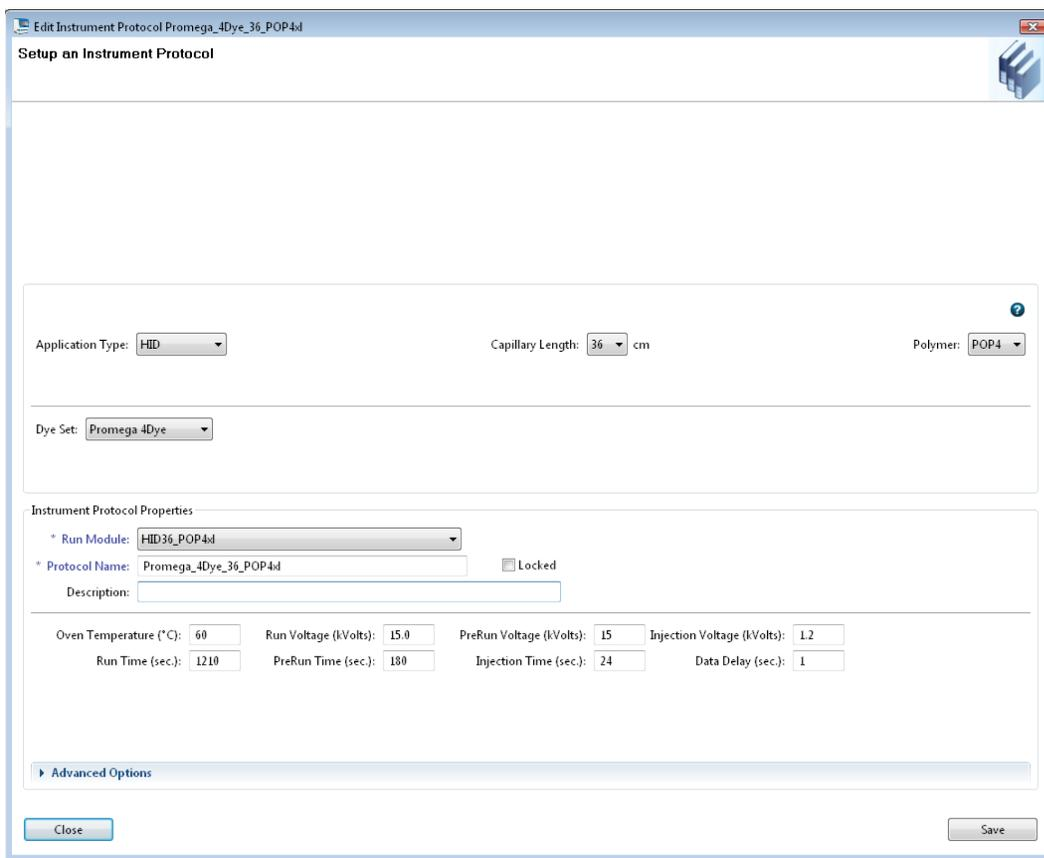

Figure 1. The Dashboard.
1. Open the 3500 Data Collection Software. The Dashboard screen will launch (Figure 1). Ensure that the Consumables Information and Maintenance Notifications are acceptable.